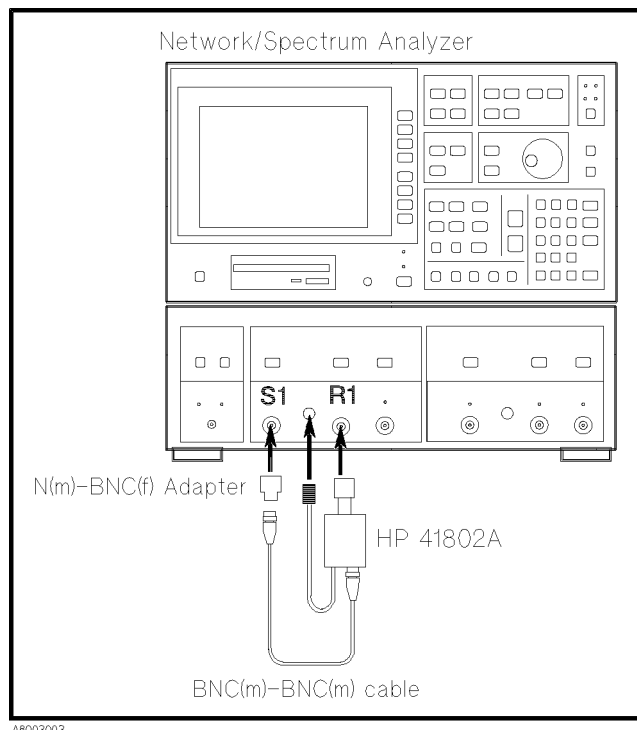

Figure 3-4. Operating Check Setup Using Network/Spectrum Analyzer
1. Connect the equipment as shown in Figure 3-4. Note that the probe power plug must be connected before the 41802A's N-type connector.